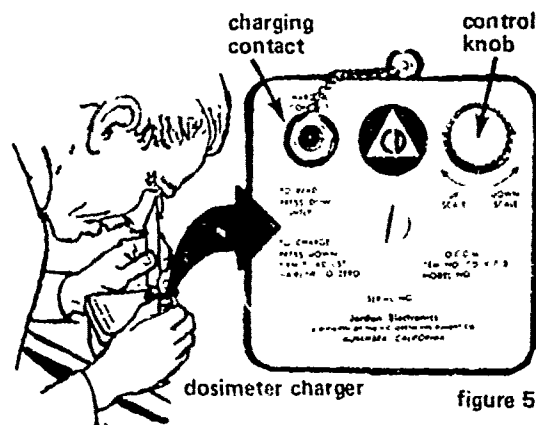
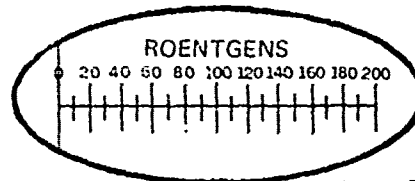

figure 5
figure 6
3. Position the charger on a flat surface such as a table. Unscrew the cap on the charging contact and place end of the dosimeter opposite pocket clip and eye piece on charging contact of charger. (See fig. 5)
4. Apply downward pressure and you should see a meter scale and a line while looking through the dosimeter. If no line is visible, rotate the control knob, located in the upper right hand corner (figure 5), until a line appears.
5. Set line to or near zero (figure 6) by turning control knob (figure 5).